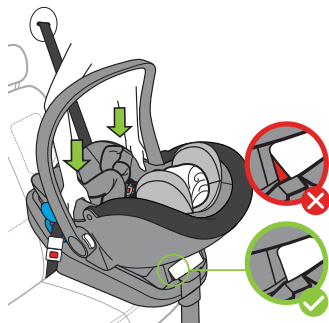

Figure 67
- Lower Carrier onto Base and push down on each side of the Carrier to connect it to the Base as shown in **Figure 67**. The red area on the side of the Release Handle will completely disappear when the Carrier is securely attached. If the red area is visible, the Carrier is NOT properly secured.